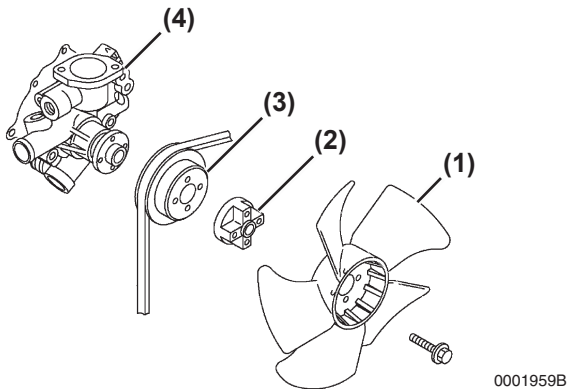

Figure 4-5-4
1. Remove the engine cooling fan guard (if equipped), engine cooling fan (**Figure 4-5-4, (1)**), spacer (**Figure 4-5-4, (2)**), engine coolant pump V-pulley (**Figure 4-5-4, (3)**) and V-belt.